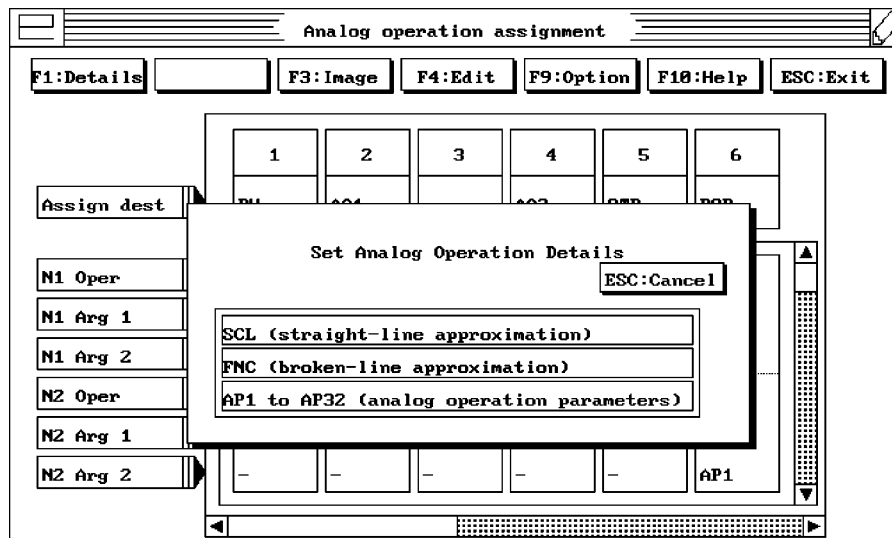

Figure 4
3. Select **F1:Details** from the **Analog operation assignment** menu. A pop-up menu appears (Figure 4).